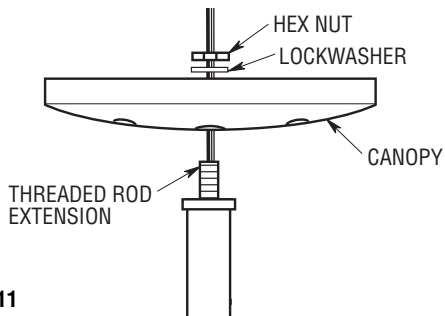

Figure 11
3. Feed the light fixture wires through the canopy. Place the canopy onto the threaded rod extension, secure with lockwasher and nut (Figure 11).